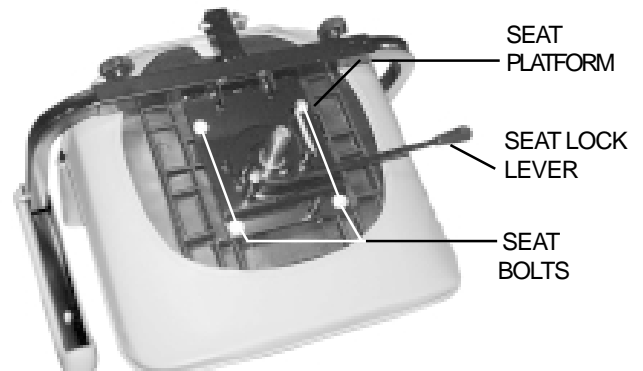

FIGURE 12. FRONT-TO-BACK SEAT ADJUSTMENT
1. Push forward on the seat lock lever and lift the seat up and off of the scooter. see figure 12
You can reposition the scooter's seat forward or rearward to one of three settings to adjust the distance between the seat and the tiller. See figure 12.
2. Remove the four bolts that fasten the seat to the seat platform. See figure 12.